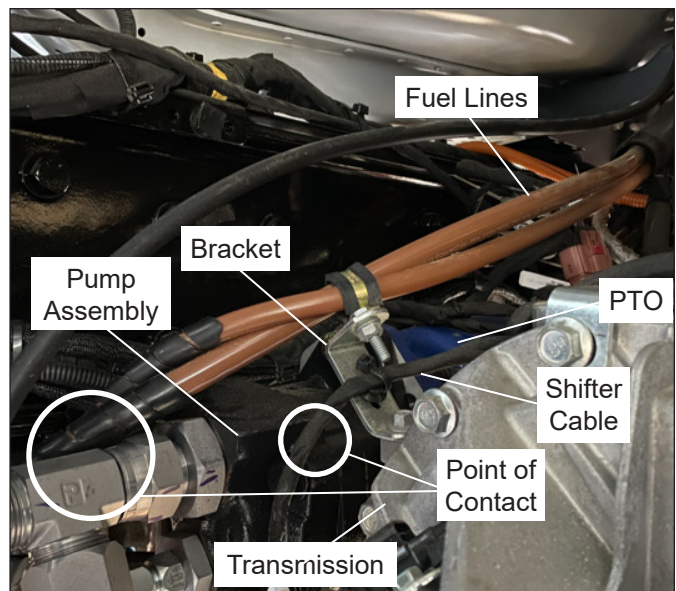

Figure 3 — Fuel Lines and Shifter Cable Inspection Angle Two (Shifter Cable Contacting Pump Assembly)
5. Inspect the fuel line(s) and shifter cable mounted on the transmission and the fuel line bracket. Determine if the line(s) or cable are making contact with the PTO or pump assemblies (refer to Figures 3, 4, and 5). If any of the line(s) or cable are making contact, the line(s) and/or cable are not routed properly. Inspect the fuel line OEM bracket to make sure it is securely installed and for signs of damage and/or deterioration of the rubber inlay. Record the results in the appropriate Inspection Results tables on page 5.